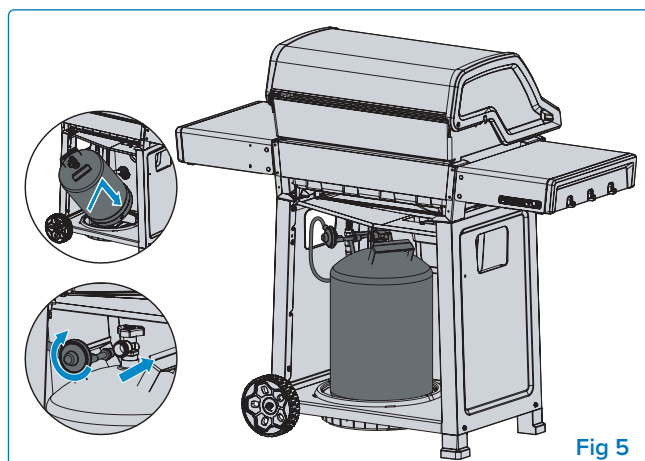

Fig 5
- An appliance is considered outdoors if installed in a shelter with three sidewalls and an overhead cover, as long as 30% or more of the horizontal periphery of the enclosure is permanently open. **(Fig 4 & Fig 5).**